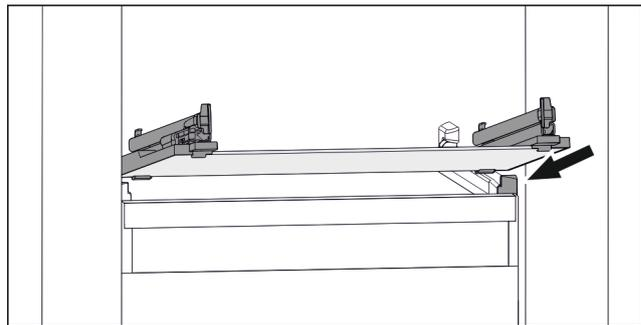

Fig. 130 Example illustration of glass shelf
- ▶ Position glass shelf at an angle behind the stoppers. (see Fig. 130)